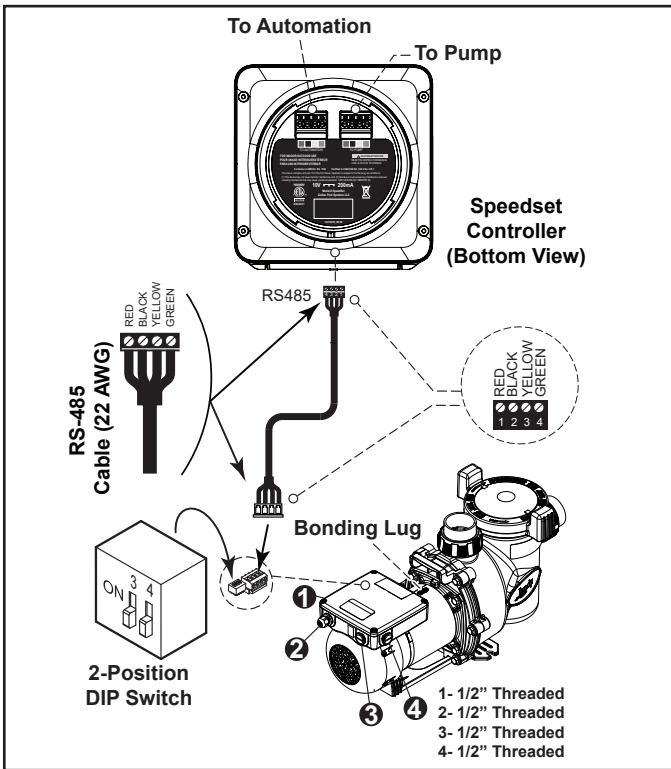

Figure 9. Wiring to a Controller
The high voltage section provides two (2) 1/2" NPT conduit ports (threaded). Conduit fittings are not provided (see Figure 9).